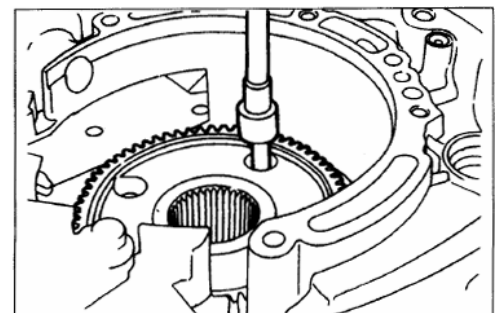

Fig 11A-50
- (58) Remove the transfer drive gear. See Fig.11A-51.